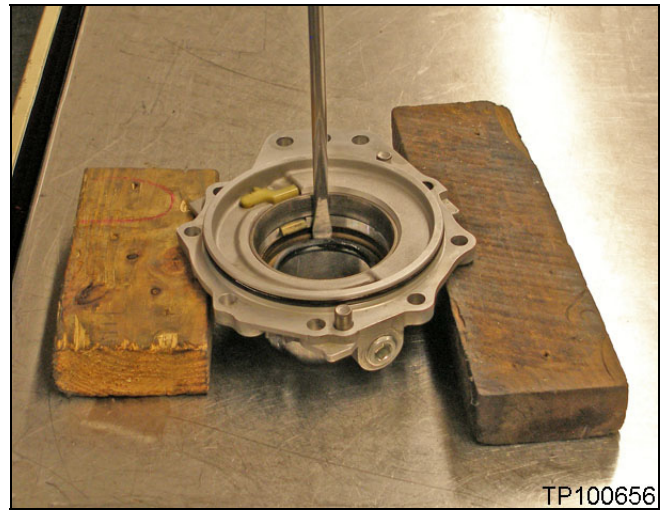

Figure 10
11. Place the adaptor case on wood blocks, and then tap out the seal in the adaptor case with a suitable tool (see Figure 10).